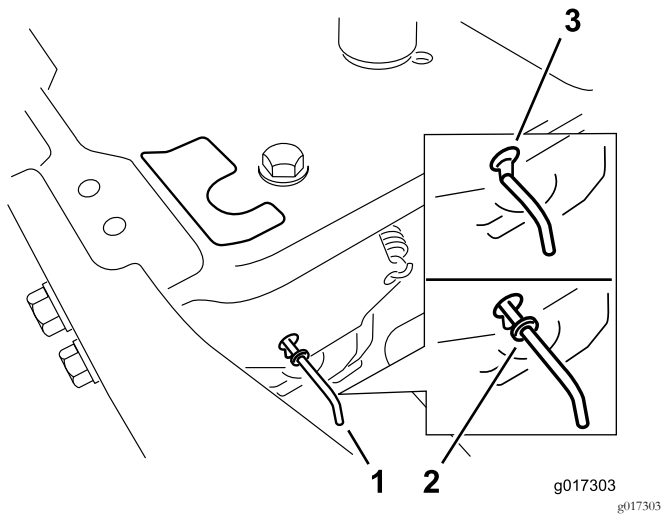

Figure 27
4. Move the bypass levers forward through the key hole and down to lock them in place (Figure 27).
Move the bypass levers rearward through the key hole and down to lock them in place as shown in Figure 27.